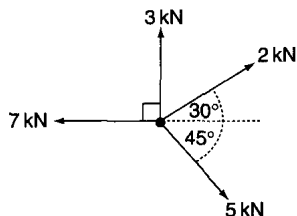

Figure 1.12
1. Determine the magnitude and direction of the resultant force for the coplanar force system shown in Figure 1.12.